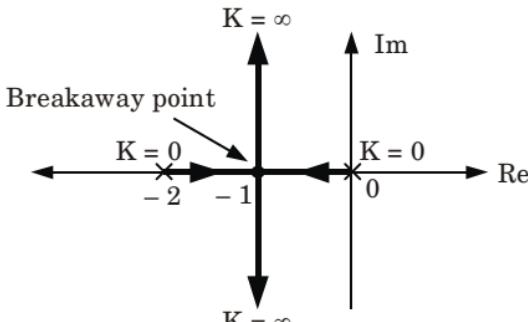

Fig. 3.17.1.
1. Root loci for $G(s)H(s) = \frac{K}{s(s+2)}$ is shown in the Fig. 3.17.1.